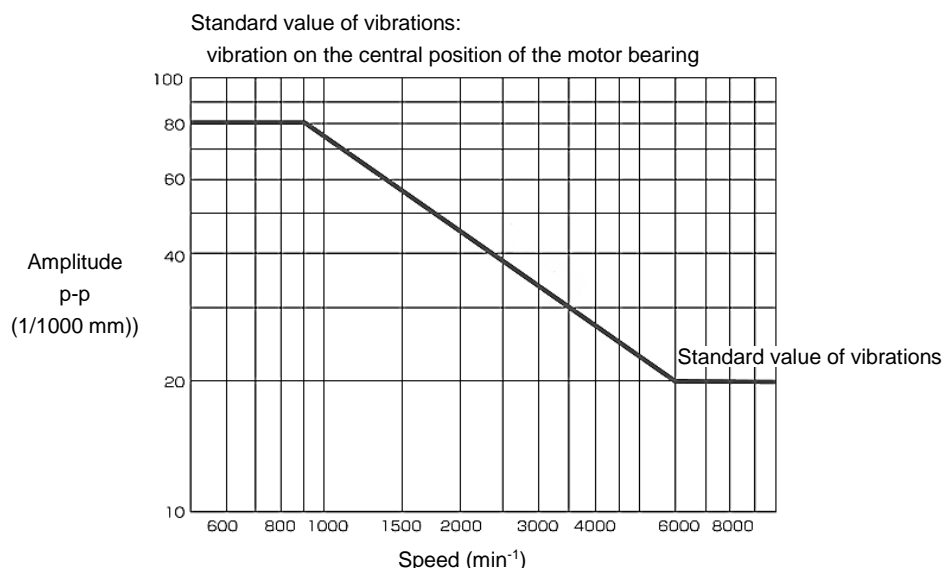

Fig.4 Vibration standard
- (2) For standard specification, allowable operating temperature of bearing is no more than Room temperature + 40°C, and no more than 80°C.
- (3) There should be almost no leakage if the mechanical seal is normal. If there is a large amount of leakage, replace the mechanical seal.
- (4) Normally, there should be almost no leakage for a mechanical seal. However, at the beginning of operating of pump, a little water leakage from a mechanical seal is recognized. As the pump is operating for a while, the water leakage would be decremented, otherwise you should stop the pump and check it. During daily inspection, loosening the bolts of the protector. Do not remove the bolt of the protector. It may cause bolts to be lost.
- (5) For gland packing specification, make sure the water leakage value is moderate according to **Table 3**. and preventing over tightening and uneven tightening gland packing. If the water leakage value could not be adjusted, there might be a deterioration occurring at shaft seal parts. Therefore it is necessary to exchange gland packing or both gland packing and shaft, and then adjusting the water leakage.
- (6) Standard value of vibrations for when the pump is installed correctly and piping work has been performed correctly are shown in **Fig.4**. Wrong piping work can often cause excessive vibrations.